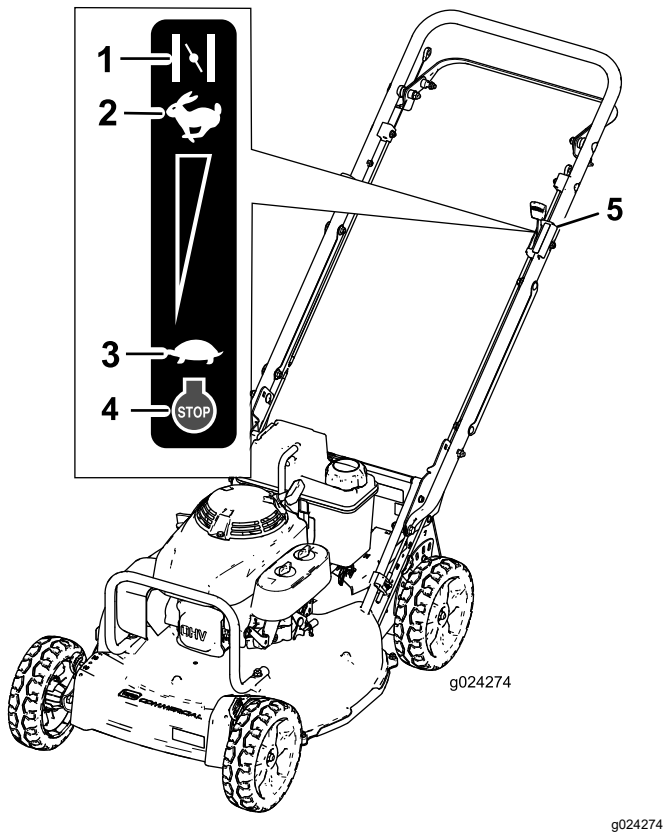

Figure 15
3. Move the throttle-control lever to the Choke position (Figure 15).
- When the engine starts, move the throttle-control lever to the Fast position (Figure 15).
Release the blade-control bar and move the throttle-control lever to the Stop position (Figure 15).